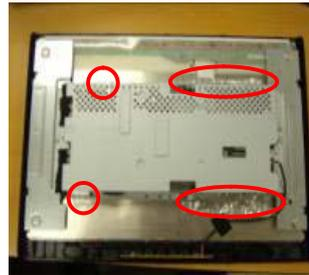

Fig.7
- a. Remove the 4 AL-tapes as shown in Fig.7